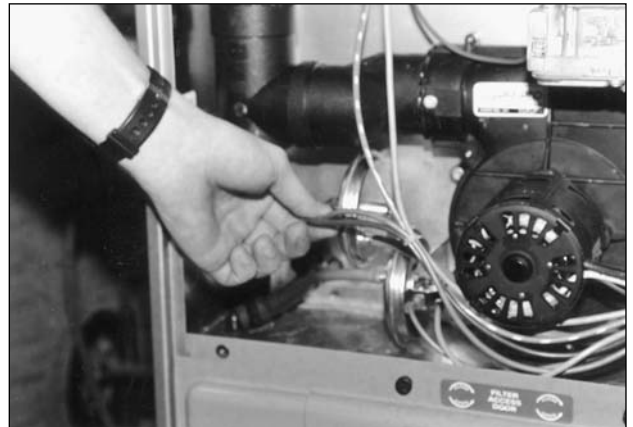

FIGURE 1
5. Remove the wiring from the existing pressure switch. See Figure 1.